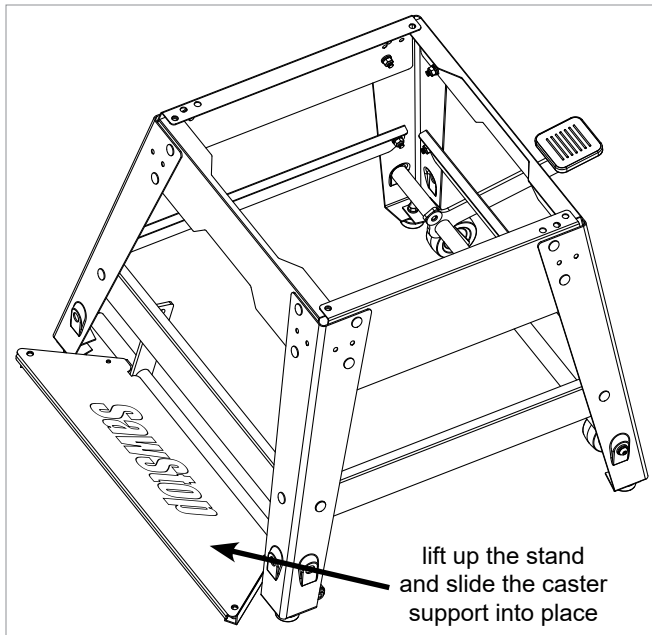
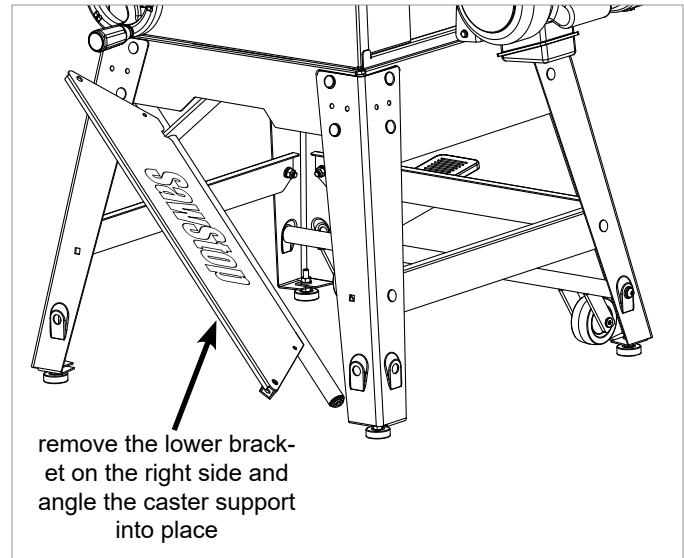

Fig. 6a
Fig. 6b
6. The caster support must be positioned inside the stand. If your contractor saw is not yet on the stand, then lift the right side of the stand a few inches off the floor and slide the caster support into position between the two right legs, as shown in Fig. 6a. Make sure that the SawStop logo on the support plate is facing up and that the connecting lever is on the inside of the stand. If your contractor saw is already mounted to the stand, you can remove the lower bracket on the right side of the stand and angle the caster support into place as shown in Fig. 6b. Once the caster support is in place, reinstall the bracket that you removed.